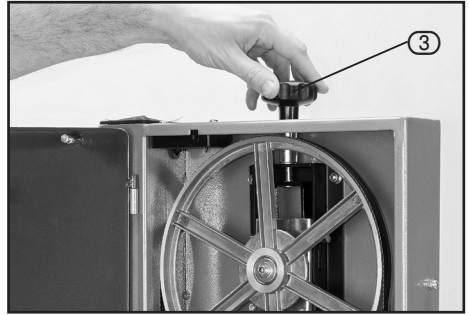

FIG. 11
9.5 TENSIONING THE BLADE – FIG. 11